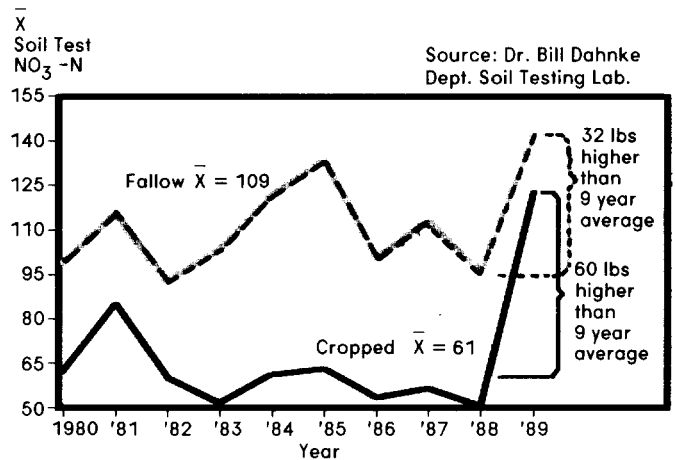

Figure 1. Nitrate nitrogen averages for September.
Approaches to fertilization management have been rather stable for a number of years. It appears the 1988 drought has made a number of spring wheat producers wonder if their soil tests for nitrate-nitrogen can be right (Figures 1 and 2). The lack of much moisture recharge during the fall of 1988 and higher than usual N levels may prompt spring wheat producers to apply little if any nitrogen (N) fertilizer to their 1989 crop. This might be called low input production. There are fertilizer management strategies for these and other conditions.